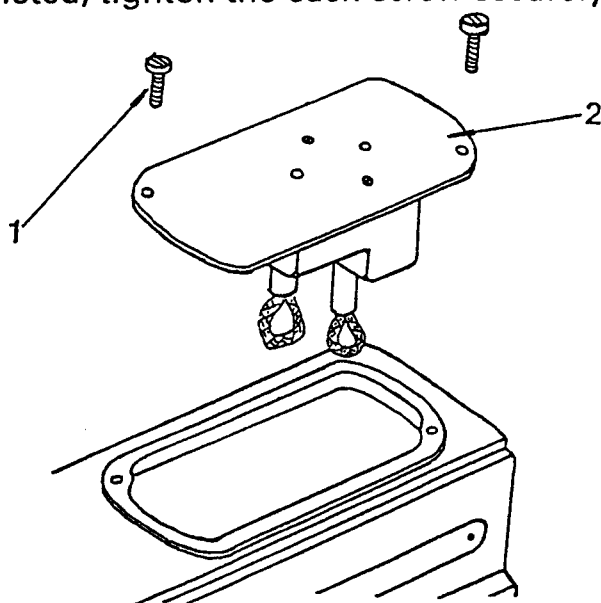
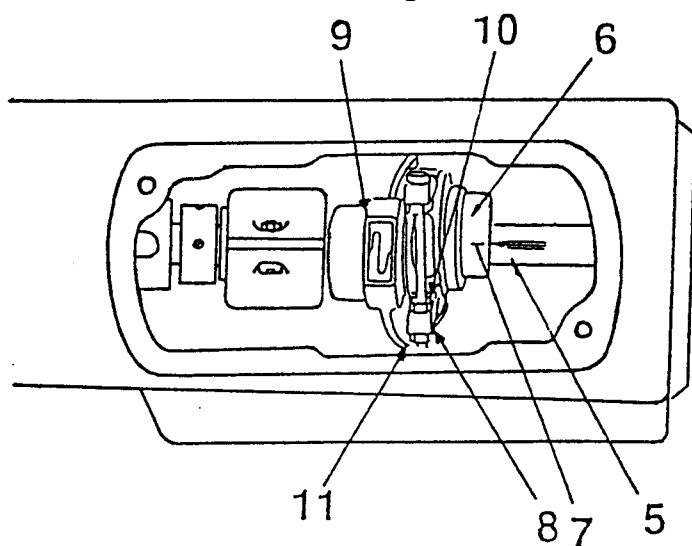

Fig.16
Fig.17
TIMING THE NEEDLE WITH FEED (Fig.16, Fig.17)
Incorrect clearance between the fork (4, Fig.17) of feed forked connection and feed fork collar (5, Fig.17) will bring irregular stitch length or overheating, etc.
To adjust this, open the cover plate (1, Fig.17).
1. Remove the cover plate (3, Fig.16) and the oil reservoir (4, Fig.16).
2. To increase the clearance, loosen the screw (10, Fig.17) and turn the screw (11, Fig.17) to left or counter-clockwise.